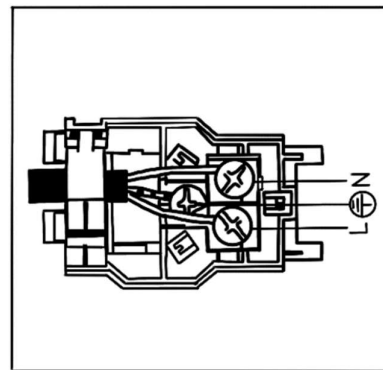

Figure 4
- Using a screwdriver, unhook the No. 2 fixing hooks and pull open the cover of the terminal board (Figure 4)
- Fasten the wires beneath the screw heads using the following color scheme: **Blue (N)** **Brown (L)** **Yellow-Green** ≡